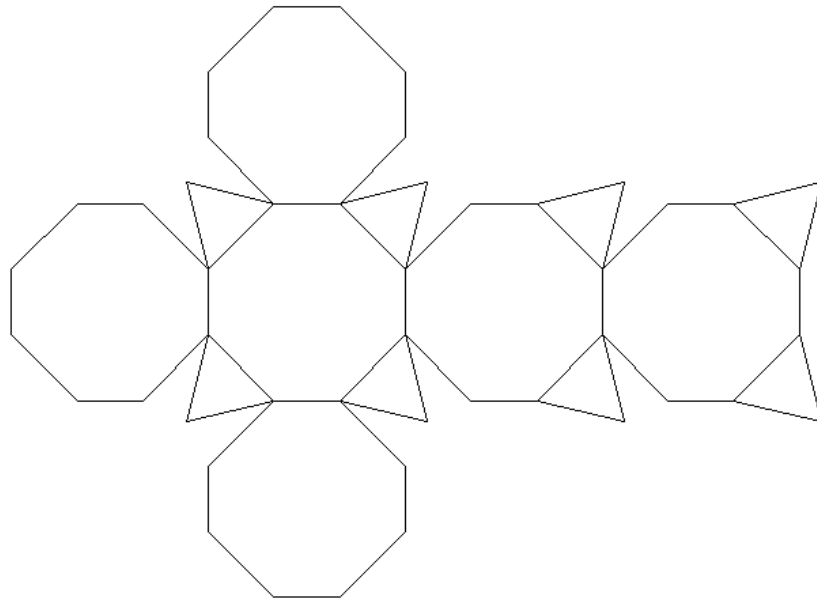
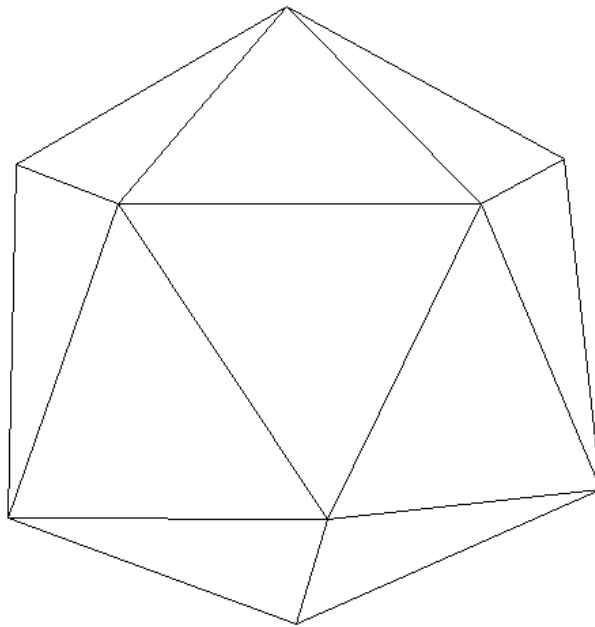

Figure 9.14
Figure 9.15
6. The net for this shape, given in **Figure 9.14** may be so large that it will not fit your sheet of poster-board, requiring that you make the model in two or more parts. Lay out four octagons in a row, the first and third having equilateral triangles filling the lost corners. Above and below any of these octagons install two more, readily recalling the layout of the cube. One octagon should be left free to allow access to the interior for internal taping, after which you will have to seal the last octagon with tape on the exterior. The completed Truncated Hexahedron (or Truncated Cube) is shown in **Figure 9.15**.